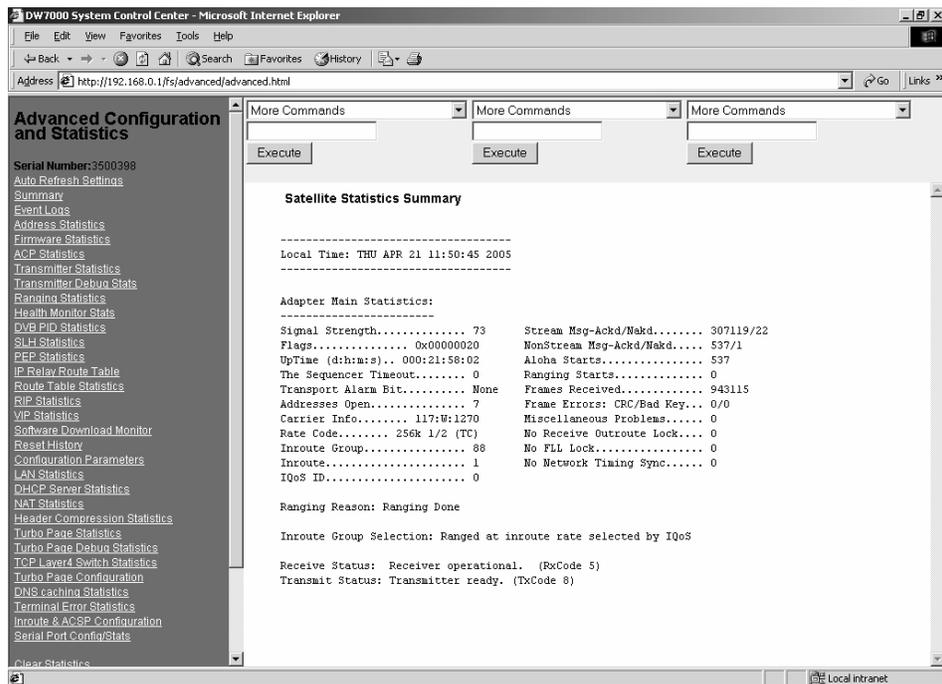

Figure 68: Advanced pages
5. Access the System Control Center Advanced pages shown in Figure 68 by using one of the following methods: